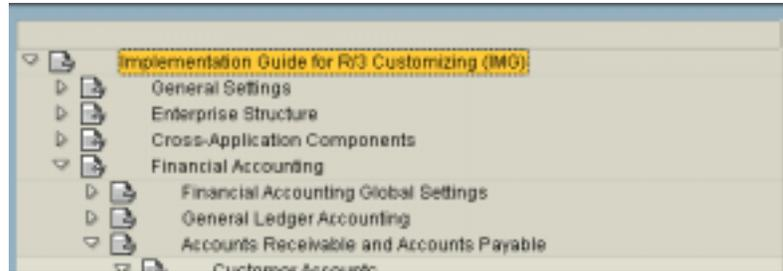

Figure 23: Customizing the master data
2. From the tree structure, select **Implementation Guide for R/3 Customizing (IMG)** as shown in Figure 23.